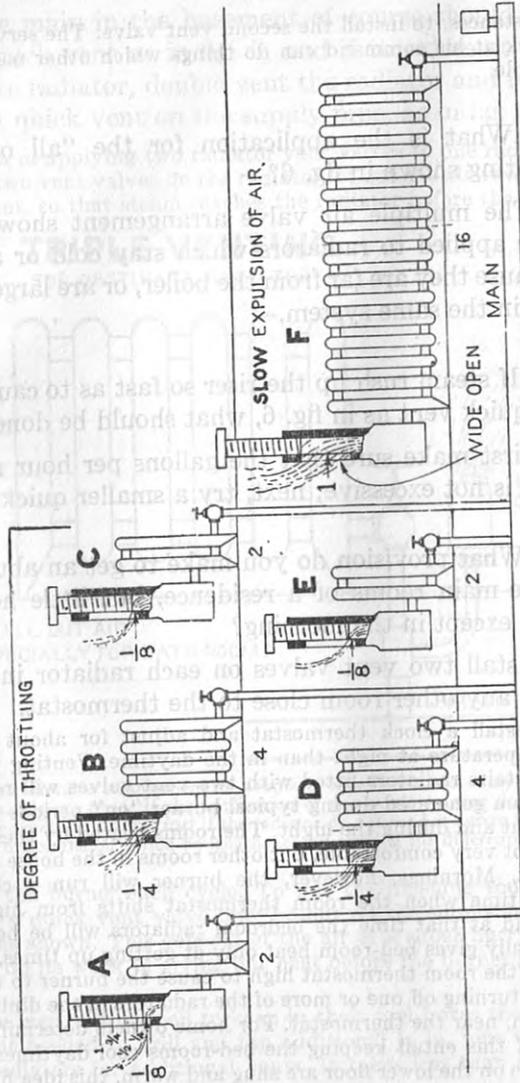

FIG. 7.—The practice of throttling to wait for a large radiator to heat. Objectionable when carried to extreme as here shown.
For instance consider fig. 7. The system comprises three very small two section radiators, two four section radiators and one large sixteen section radiator. Evidently the large radiator F, holds 8 times more air than the small radiators A, C, and E, and 4 times more air than the four section radiators B and D.
**Ques.** What can be done to remedy the objectionable conditions shown in fig. 7?